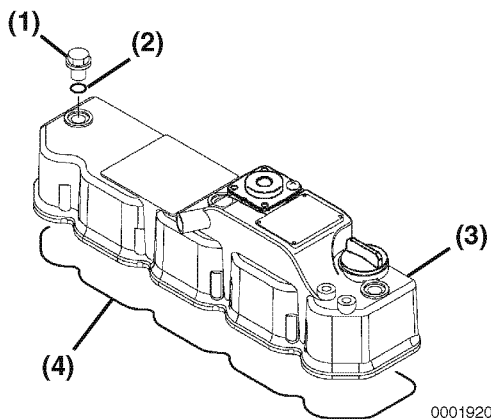

Figure 6-37
1. Lightly grease a new valve cover gasket (**Figure 6-37, (4)**). Place the gasket in the groove of the valve cover (**Figure 6-37, (3)**).
3. Be sure new O-rings (**Figure 6-37, (2)**) are installed on the valve cover nuts. Reinstall and tighten the valve cover nuts (**Figure 6-37, (1)**).